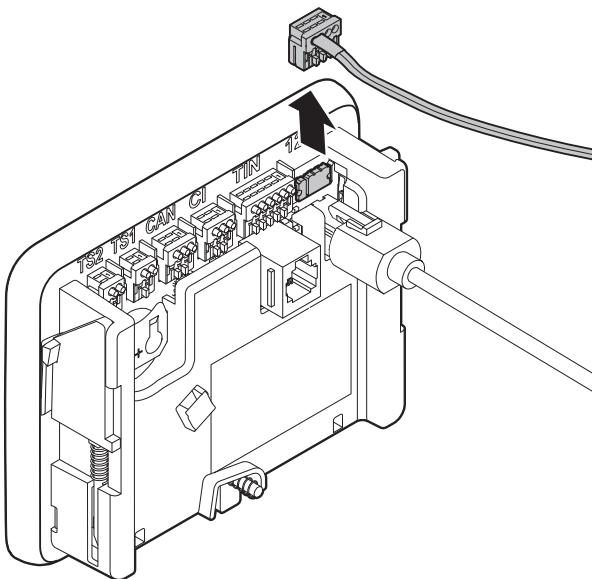

Fig. 7
- Carefully unplug the connector cable (Fig. 7) upwards from the panel.